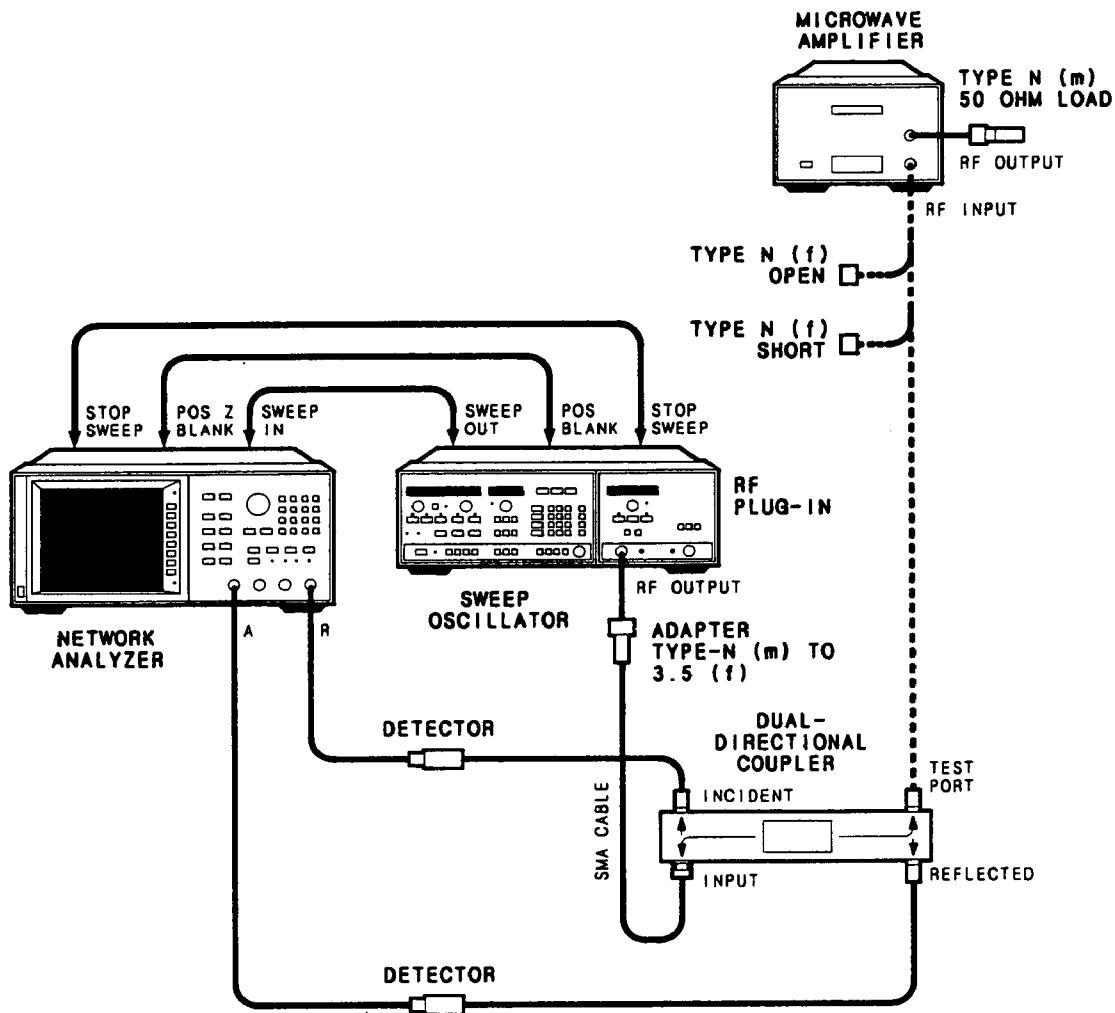

Figure 4.3 Input VSWR Test Setup (Unleveled)
In the Input VSWR test, the equipment is set up as shown in Figure 4-3 and the network analyzer is set up for an A/R measurement. An open-short calibration is performed at the test port of the coupler and the calibration is stored into the network analyzer memory. The network analyzer memory is set for measurement minus memory and the amplifier is connected to the coupler. The dB value of the maximum point on the network analyzer is determined and this value is then converted to VSWR.
In the Output VSWR test, the 2.0 to 18.0 GHz frequency range is tested in four separate 4 GHz bandwidths. This is done to increase the resolution of the network analyzer display. The dual directional coupler is set up as a single directional coupler and then a load is placed on the end of the air line (see Figure 4-3) to prevent any reflections from being seen at the coupled port. The signal at the end of the coupled port is then stored into the network analyzer memory. A short is then placed on the air line, the network analyzer is set to display measurement minus memory, and the maximum change in power is measured. Systems errors are corrected by measuring the system loss in one direction and multiplying that number by two. Finally, through several calculations, the VSWR of the amplifier is determined.
1. Connect the equipment as shown in Figure 4-3 with the short connected to the coupler's Test Port.